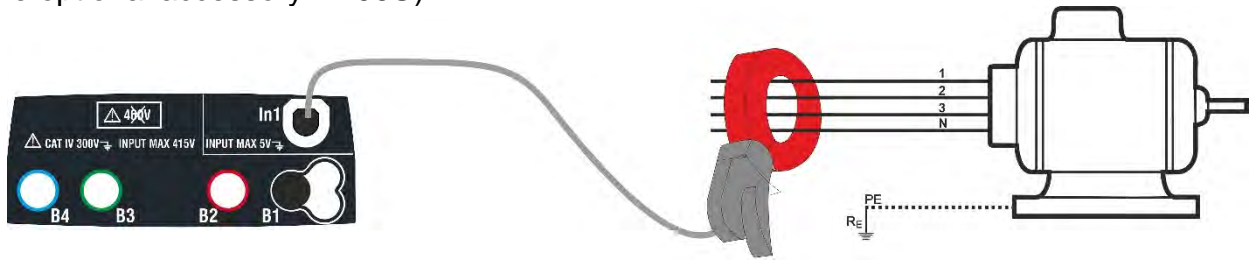
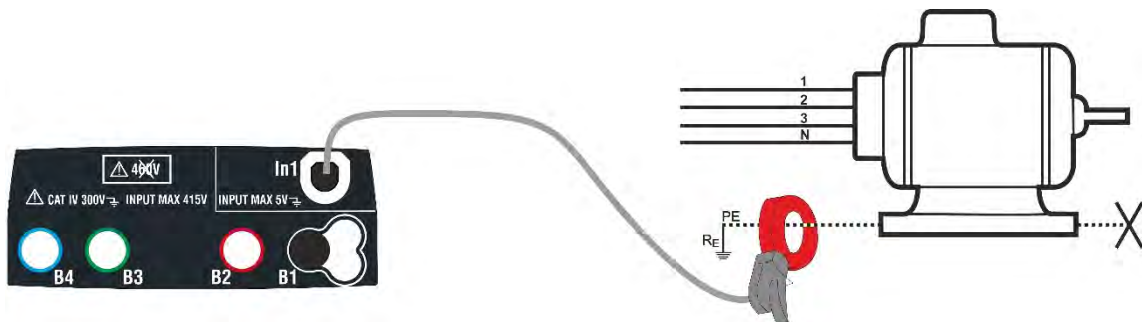

Fig. 26: Indirect measurement of leakage current in three-phase systems
Fig. 27: Direct measurement of leakage current in three-phase systems
4. For indirect measurements of leakage current, connect the external clamp according to Fig. 26. For direct measurements of leakage current, connect the clamp according to Fig. 27 and disconnect possible additional earth connections that could influence the test results.